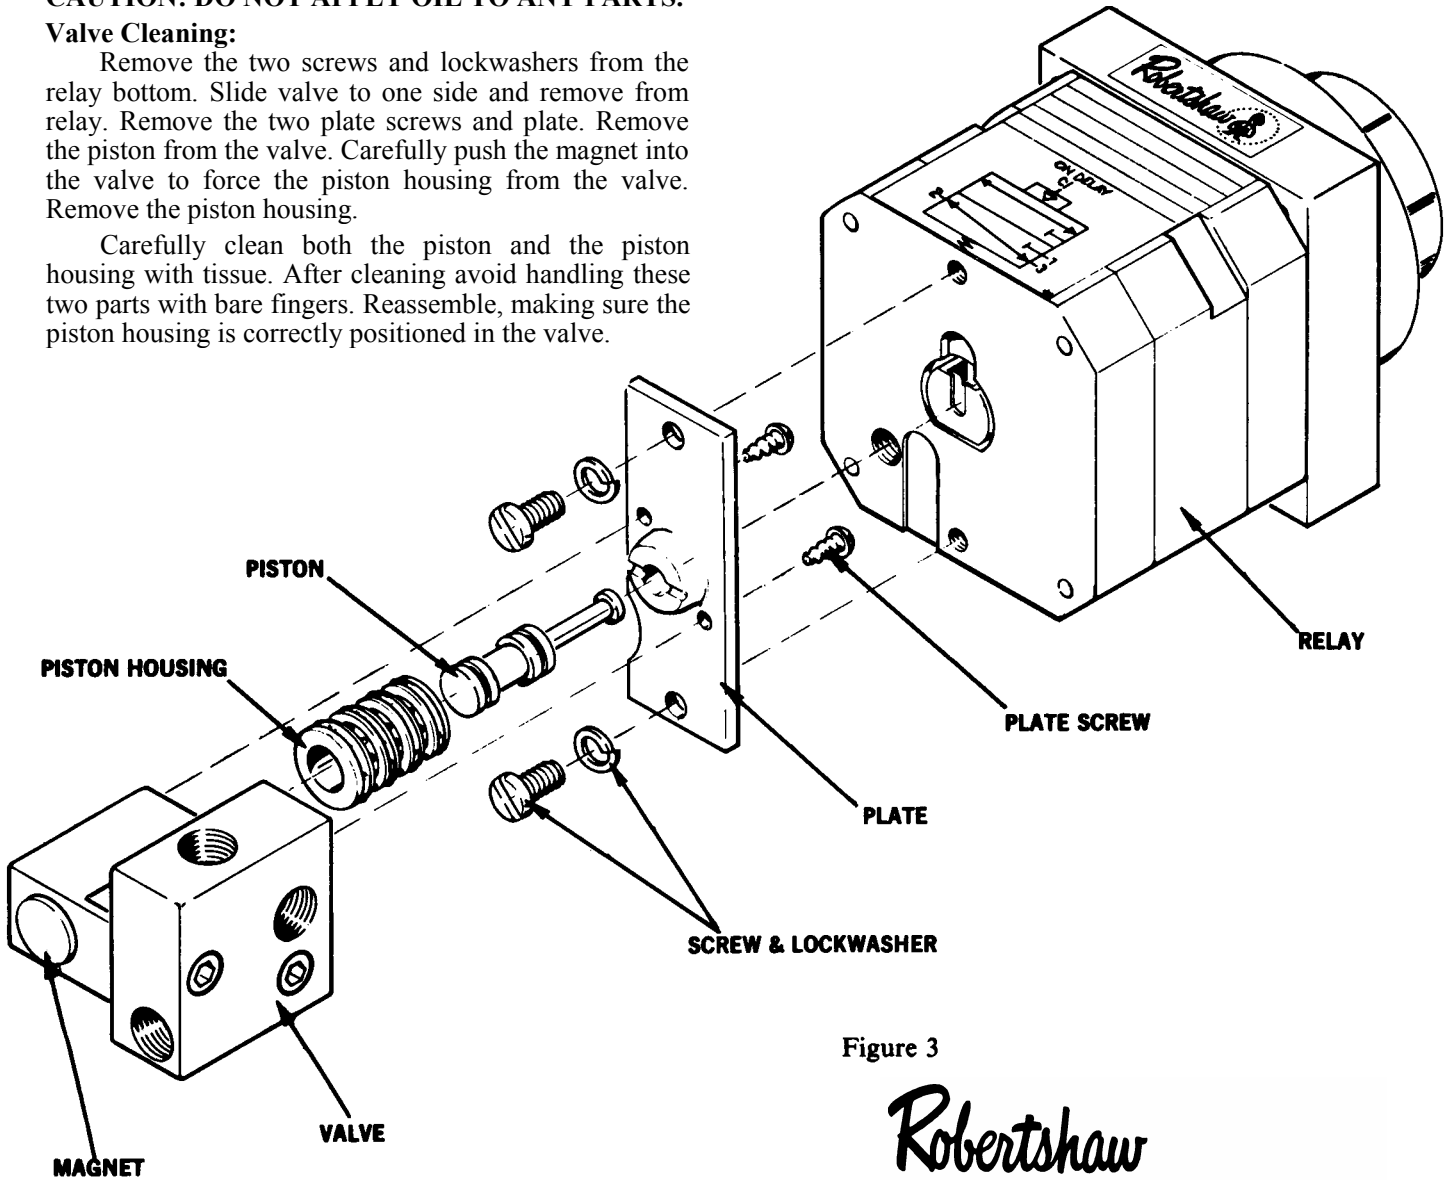

Figure 3
**MAINTENANCE - See Figure 3**